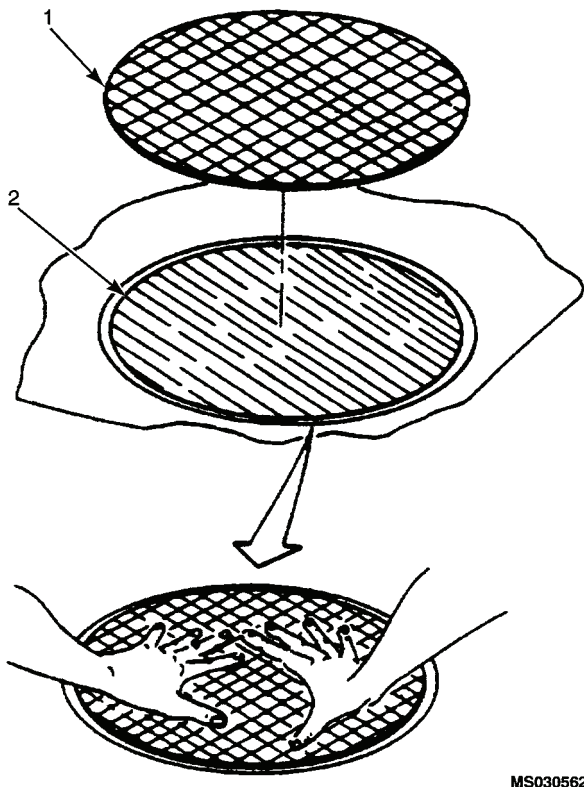

Figure 2-29. Applying Reinforcement Patch.
(i) Wet fabric reinforcement patch (1, figure 2-29) with acetone (item 3, table 2-11). Shake out excess acetone.